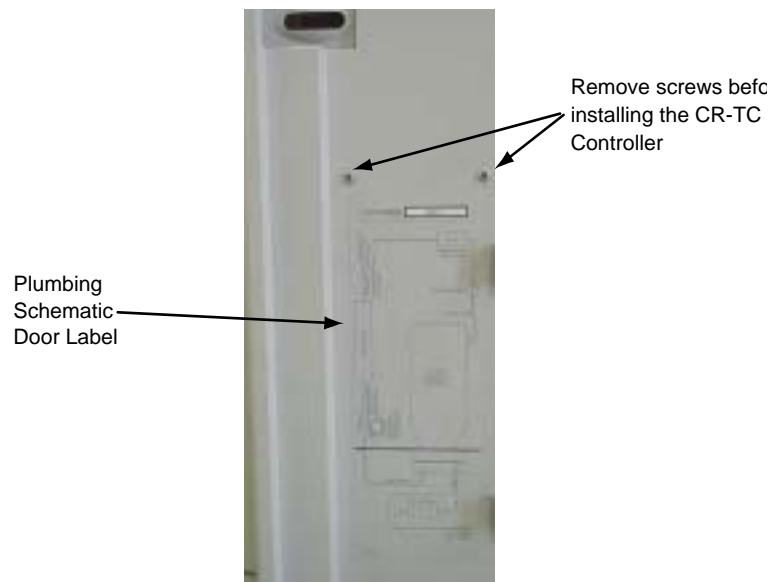

Figure 4
- A. Temporarily remove and store the two screws located on the top half of the EG40 module door (inside panel). These will be used to attach the CR-TC Controller box to the door. See Figure 4.